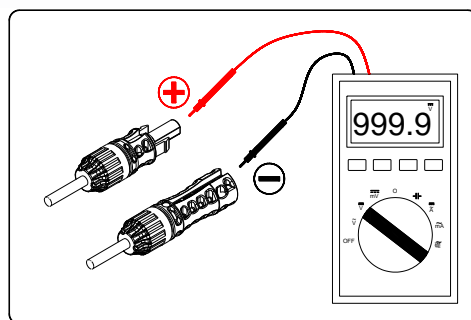

FIG 5-20 Check the polarity of PV string
Step 2: Check if the polarity of the connection cables and connectors for the PV strings is correct, as shown in FIG 5-20. (Note: If the DC input polarity is reversed, the inverter will not operate properly.)